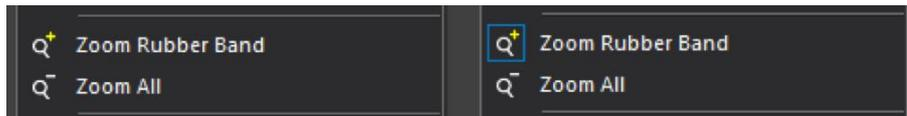

Figure 12.10: *Zoom Rubber Band* tool disabled (left), enabled (right).
- *Enable/Disable* by right-clicking **Zoom Rubber Band**, as illustrated in Figure 12.10.